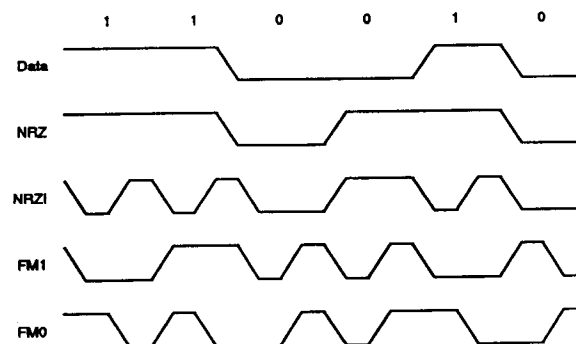

Figure 7. Data Encoding Methods
**Data Encoding.** The ISCC may be programmed to encode and decode the serial data in four different ways (Figure 7). In NRZ encoding, a 1 is represented by a High level and a 0 is represented by a Low level. In NRZI encoding, a 1 is represented by no change in level and a 0 is represented by a change in level. In FM1 (more properly, bi-phase mark), a transition occurs at the beginning of every bit cell. A 1 is represented by an additional transition at the center of the bit cell and a 0 is represented by no additional transition at the center of the bit cell. In FM0 (bi-phase space), a transition occurs at the beginning of every bit cell. A 0 is represented by an additional transition at the center of the bit cell, and a 1 is represented by no additional transition at the center of the bit cell. In addition to these four methods, the ISCC can be used to decode Manchester (bi-phase level) data by using the DPLL in the